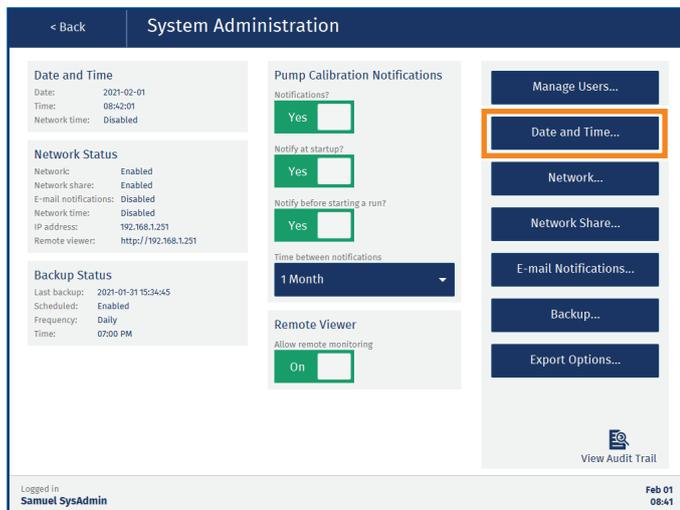

Figure 15. The Date and Time button in the System Administration view.
1. In the **System Administration** view, press **Date and Time...** (see Figure 15).